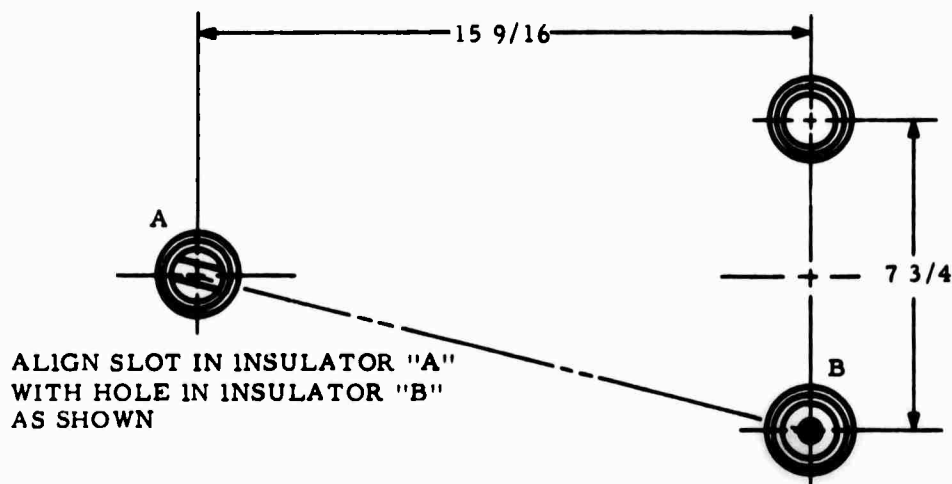

Figure 2-1. Installation of Glass Insulator Assemblies
- b. Set glass insulator assemblies on floor of Thermal Jacket, Model 14414, as shown in figure 2-1. Place the Seismometer leveling screw assemblies on these insulators with the rear leveling screw assembly (foot) on insulator "A".